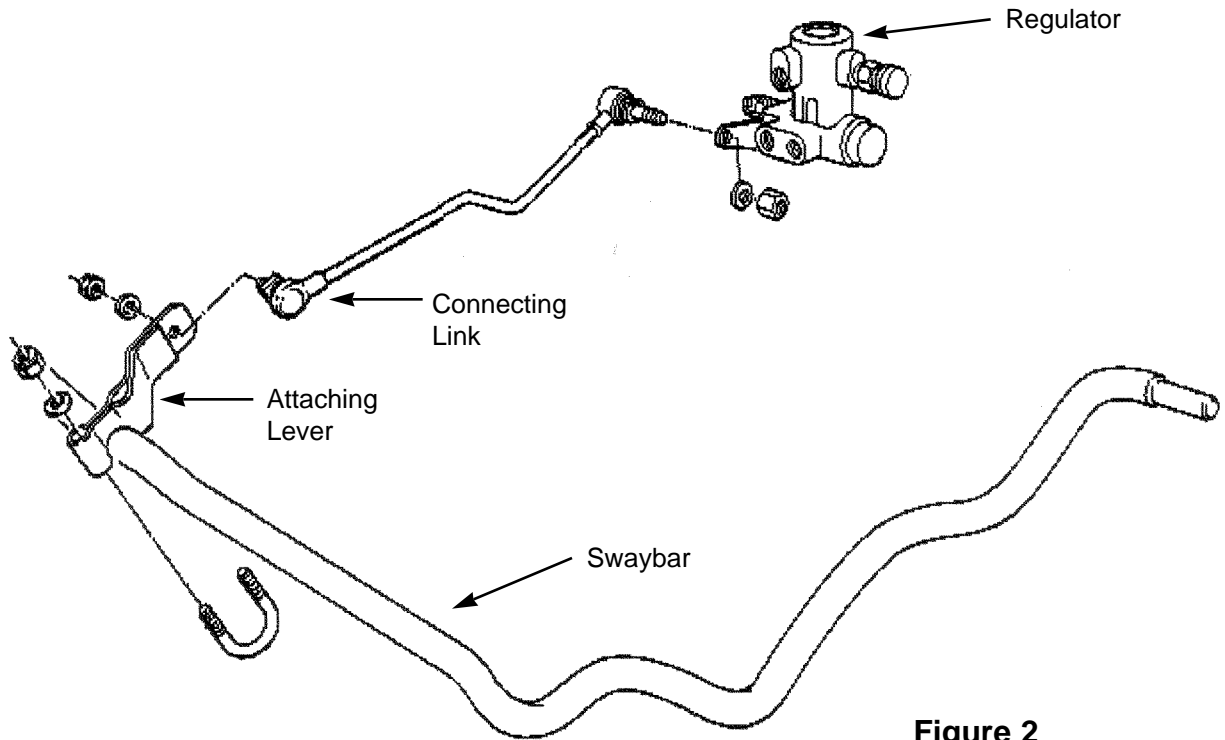

Figure 2
4. Disconnect the attaching lever and connecting link from the swaybar and the hydraulic regulator valve. (See Figure 2)